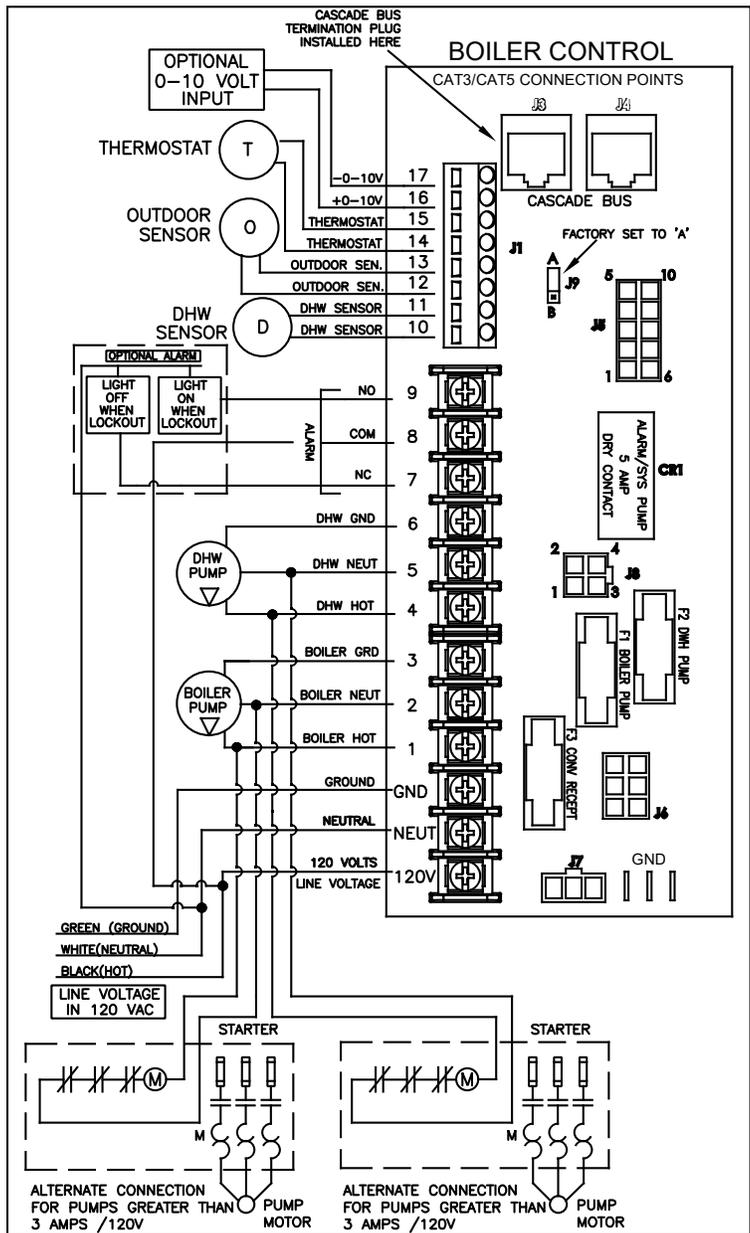

Figure 29 - Control Wiring
NOTE: A termination plug is included in the CAT 3 / CAT 5 Bus Connection Point, labeled J3 in Figure 29. DO NOT REMOVE THIS PLUG! Doing so will affect boiler operation and void warranty.
1. Connect the incoming power wiring to the line voltage terminal strip in the electrical junction box at terminals 120V, Neutral, Ground (shown in Figure 29).
3. Connect the boiler pump as shown in Figure 29 to the terminals marked 1 - (HOT), 2 - (NEUT), and 3 - (GND). The connections shown are suitable for a maximum continuous pump draw of 3 amps at 120 volts. If the pump requires more current or voltage than the 120 volts supplied, an external motor starter or contactor will be required.
The control includes a dry contact alarm output. This is an SPDT circuit, rated at 5 amps at 120 volts. This contact can be used to activate an alarm light or bell or notify a building management system if the boiler goes into a lockout condition. The circuit between the ALARM COM and NC terminals is closed during normal operation and the circuit between ALARM COM and NO is open during normal operation. The connections depicted in Figure 29 show two 120 volt lights connected to the alarm terminals. One light will be on when the boiler is in normal mode and the other light will be on when the boiler is in lockout mode.
1. Connect the room thermostat to the terminals marked THERMOSTAT in the electrical junction box (see Figures 29 and 32). Alternately, any dry contact closure across these terminals will cause the boiler to run. Take caution to ensure neither of the terminals becomes connected to ground.
2. Connect the indirect sensor (7250P-325) to the terminals marked DHW SENSOR (shown in Figures 29 and 32) in the electrical junction box.
2. Connect a building management system or other auxiliary control signal to the terminals marked 16, 0-10 VOLT + and 17, 0-10 VOLT - in the electrical junction box (shown in Figure 29). Caution should be used to ensure that the 0-10 VOLT + connection does not become connected to ground.